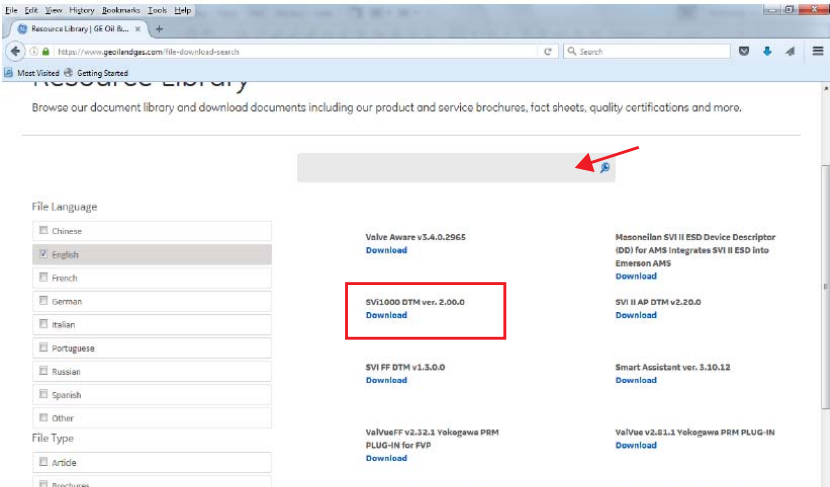

Figure 27 Download Center: Search for SVi1000 DTM
1. Go to the *Resource Library* (<https://www.geoilandgas.com/file-download-search>) and enter *SVi1000 DTM* in the search field (red arrow in Figure 27).
The results appear (red box in Figure 27).